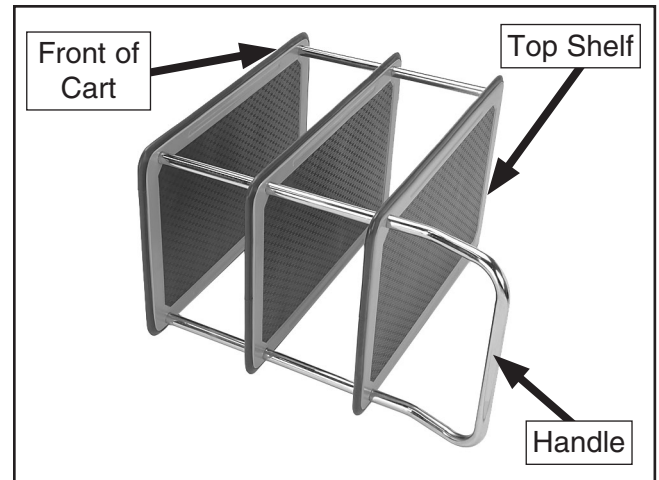

Figure 5. Top shelf and handle assembled.
- Secure the front end of the top shelf with the 20" support rods, then fasten the handle to the cart with the 20⁵/₈" support rods (**Figure 5**).